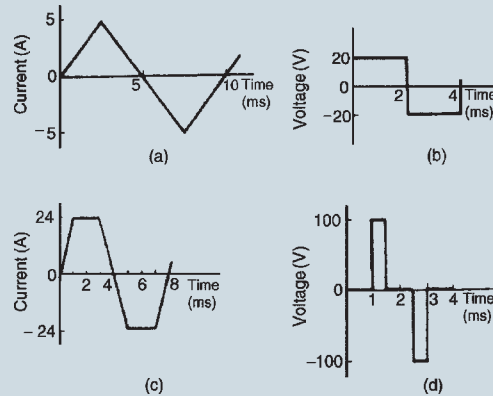

Figure 16.7
- For the waveforms shown in Fig. 16.7 determine for each (i) the frequency, (ii) the average value over half a cycle, (iii) the r.m.s. value, (iv) the form factor, (v) the peak factor.